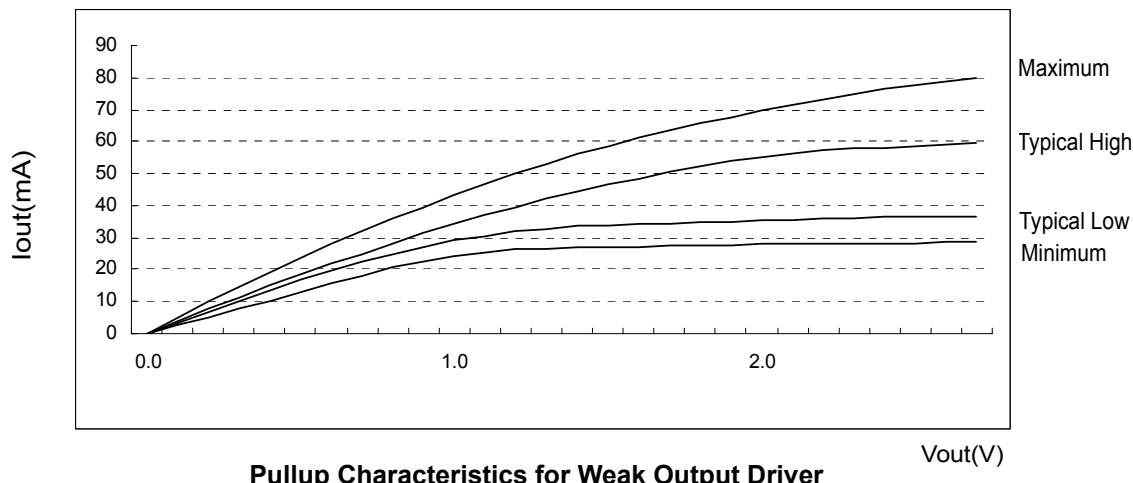

**Figure 3. I/V characteristics for input/output buffers: Pull up(above) and pull down(below)**
Figures 3 and 4 show the driver characteristics graphically, and tables 8 and 9 show the same data in tabular format suitable for input into simulation tools. The driver characteristics evaluation conditions are:
1. The full variation in driver current from minimum to maximum process, temperature and voltage will lie within the outer bounding lines the of the V-I curve of Figure 3 and 4.
2. It is recommended that the "typical" IBIS V-I curve lie within the inner bounding lines of the V-I curves of Figure 3 and 4.